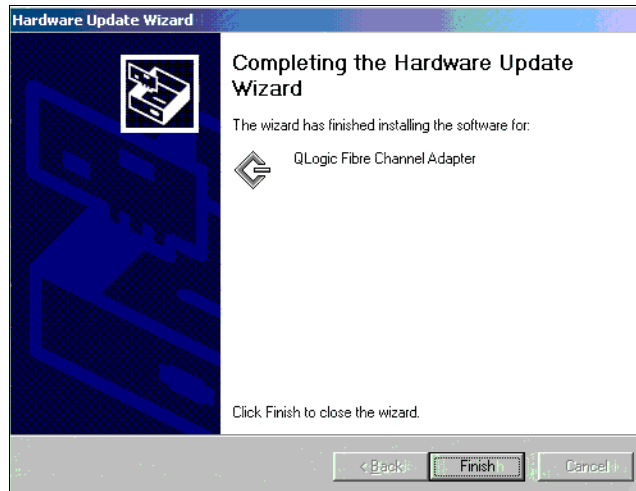

Figure 25-7 QLogic driver installation complete
8. When the installation is complete, click **Finish** (Figure 25-7 on page 617) to close the wizard. The HBA drivers have been installed successfully.